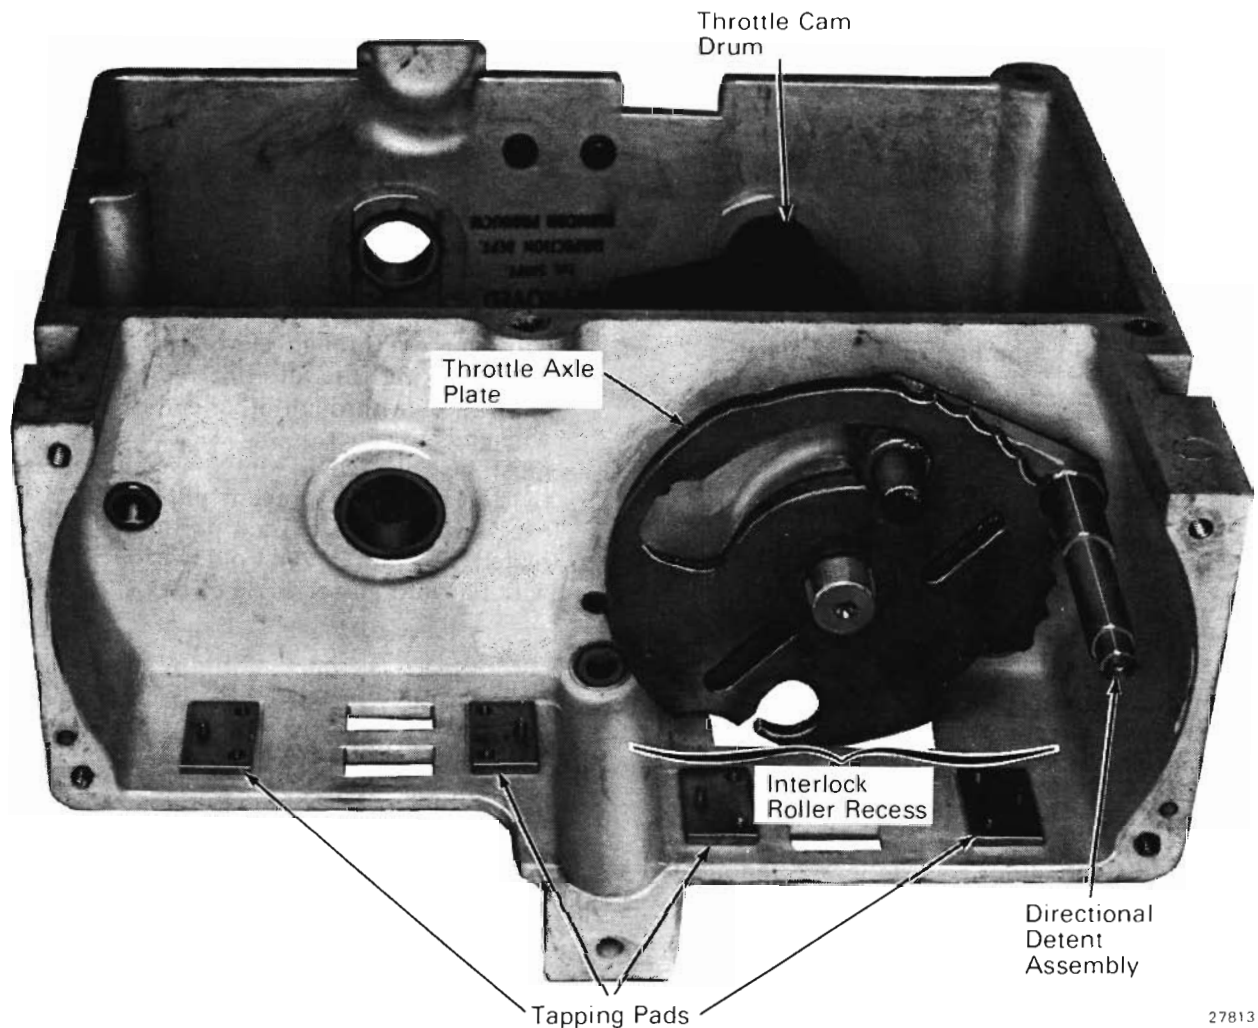

Fig.12 - Throttle Axle Removal
42. While holding throttle cam drum in position, rotate throttle axle so interlock roller recess of throttle axle plate faces rear of housing, Fig. 12, and remove throttle axle from housing.